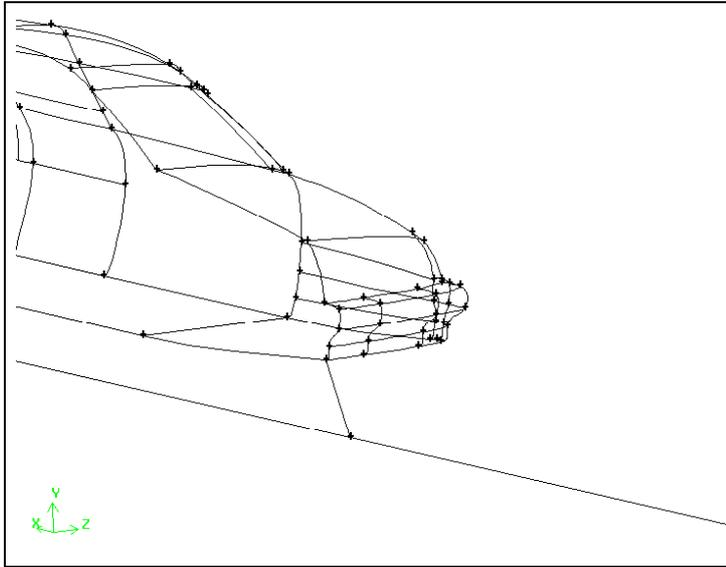

Figure 6-14: Edge from bottom of symmetry plane to front of sedan
- b) Zoom in on the front of the sedan so that you can see the front bumper and the first vertex created by splitting the edge at the bottom of the symmetry plane (see Figure 6-14).
- e) Click **Apply** to create the edge as shown in Figure 6-14.